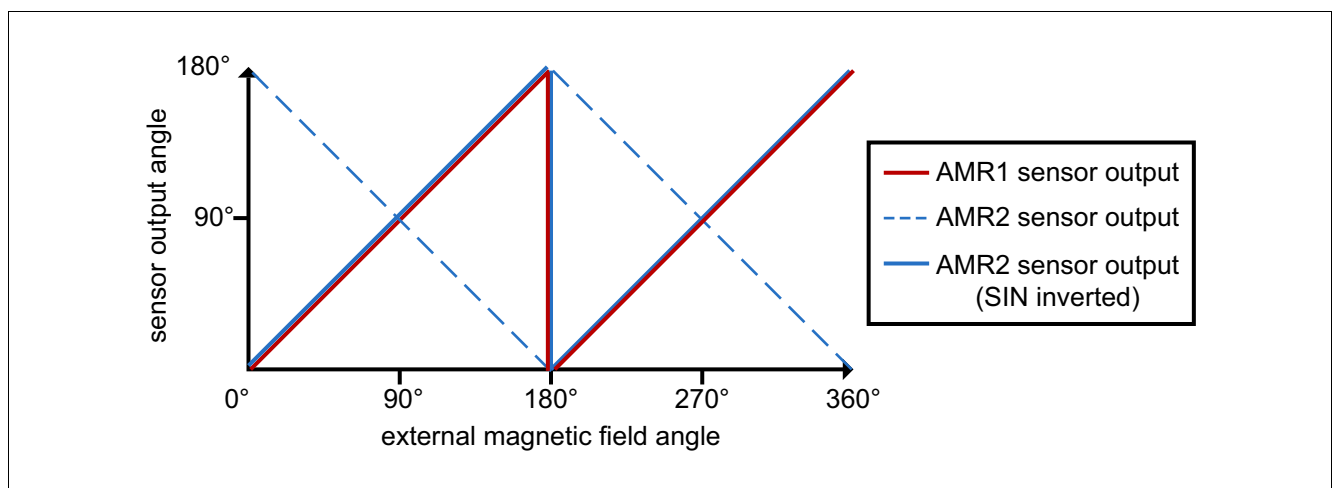
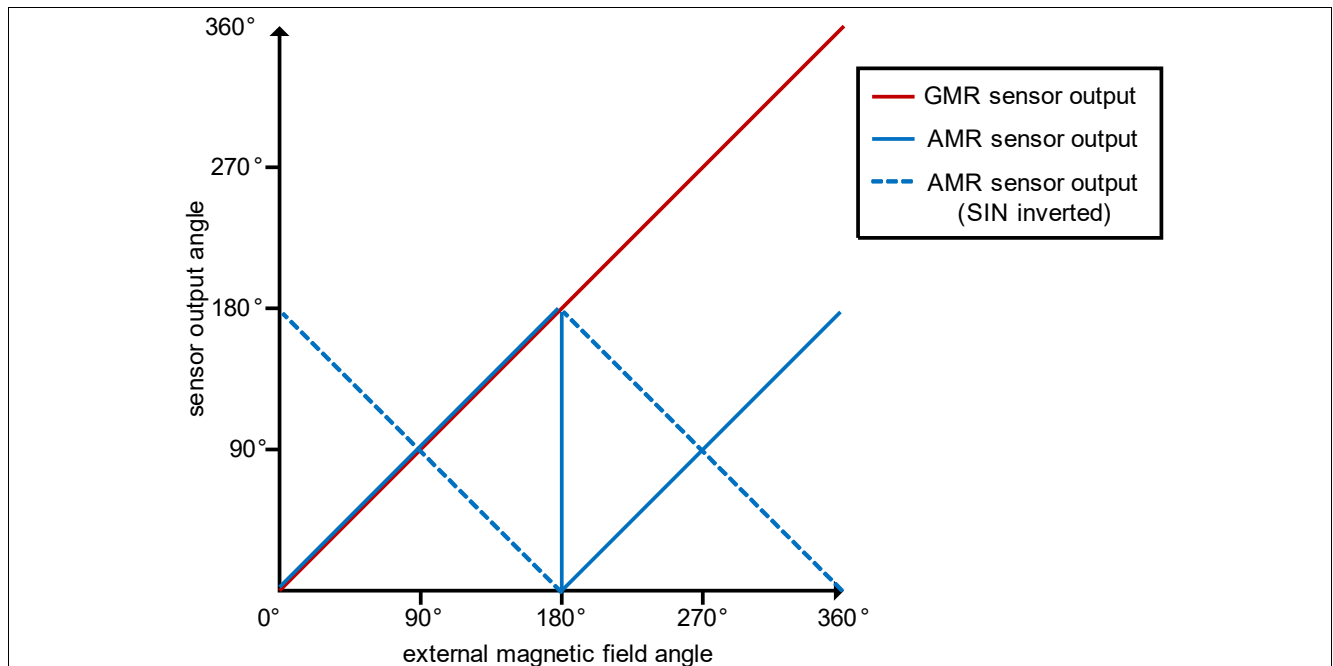

Figure 9 TLE5109A16D Dual die angle output
Figure 10 TLE5309D Dual die angle output
The TLE5109A16D consists of two AMR ICs sense opposite rotation directions. This behavior is illustrated in Figure 9, which shows the angle calculated from the output of the two dies, respectively, for a given external magnetic field orientation.
The bottom sensor element of the TLE5309D is an AMR sensor, the signal of which is only unambiguous over 180°. Therefore, in the angle range of 180° to 360° of the GMR sensor, the AMR sensor output signal will be in a range of 0° to 180° again. This behavior is illustrated in **Figure 10**, which shows the angle calculated according to **Equation (1)** and **Equation (2)** from the output of the GMR and AMR sensors, respectively, for a given external magnetic field orientation.
If in an application a different output of the two sensors is desired, the connections to the SIN_N and SIN_P or COS_N and COS_P pins on the printed circuit board can be interchanged. The consequence of this change of connections is that either the differential sine or the cosine signal are inverted, which corresponds to a change of rotation direction (see dashed line in **Figure 9** and **Figure 10**).